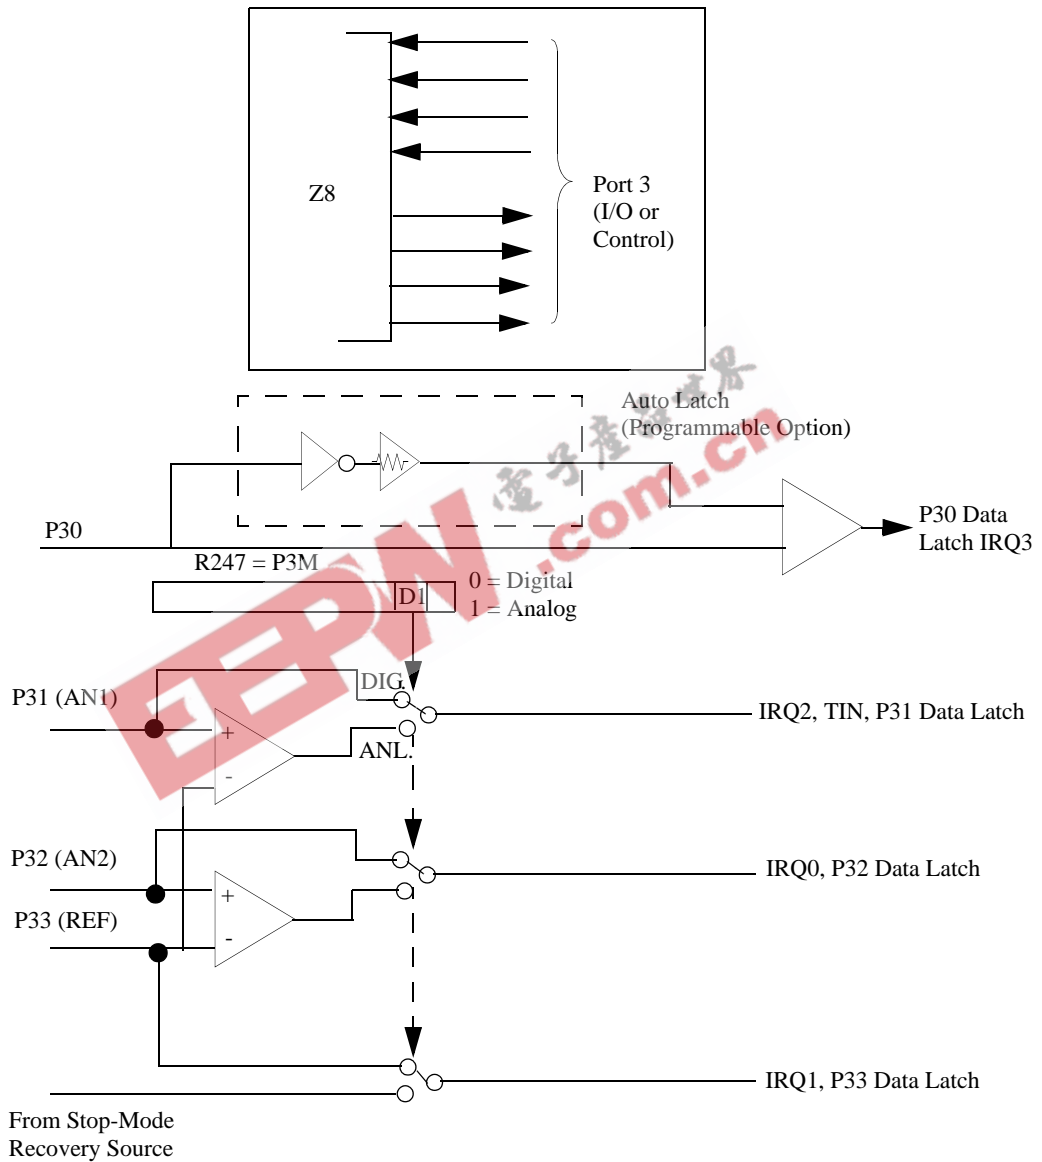

Figure 5. Port 3 Configuration
**Port 2 (P27–P20).** Port 2 is an 8-bit, bidirectional, CMOS-compatible I/O port. These eight I/O lines are configured under software control as an input or output, independently. Port 2 is always available for I/O operation. The input buffers are Schmitt-triggered. Bits programmed as outputs may be globally programmed as either push-pull or open-drain. Low-EMI output buffers are globally programmed by the software. See Figure 5.
**Comparator Inputs and Outputs.** Port 3, pins P31 and P32 each feature a comparator front end. The comparator reference voltage, pin P33, is common to both comparators. In ANALOG mode, the P31 and P32 are the positive inputs to the comparators, and P33 is the reference voltage supplied to both comparators. In DIGITAL mode, pin P33 is used as a P33 register input or IRQ1 source. P34 and P37 can provide the comparator output directly by software-programming the PCON register bit D0 to 1 (see Figure 5).